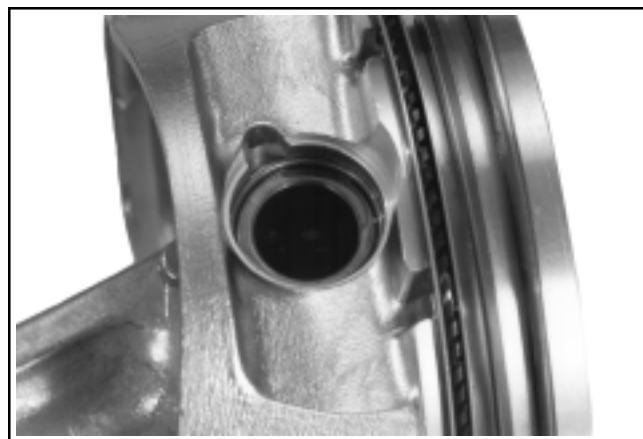

Figure 11-5. Installing Piston to Connecting Rod.
1. Assemble the piston to the connecting rod. See Figure 11-5.